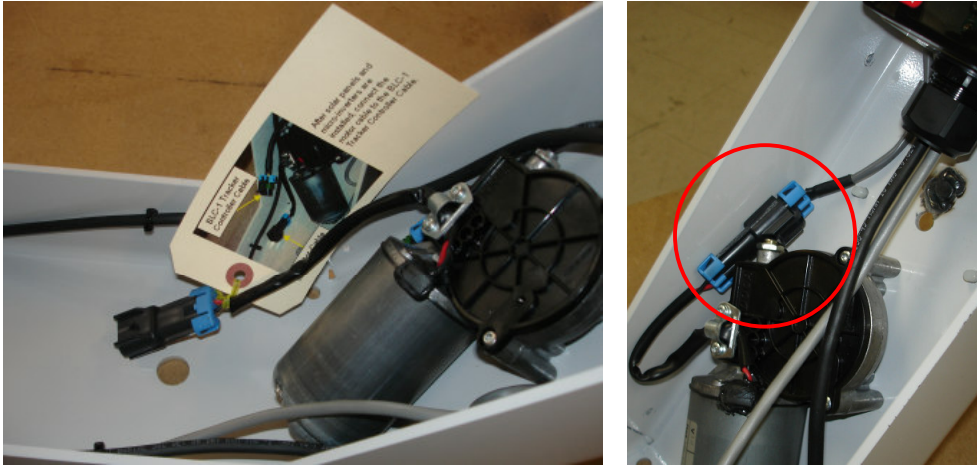

Figure 23
3. After solar panels and micro-inverters are installed and SPT is mounted to the pole, remove the tag and plug the motor into BLC-1 tracker controller. See Figure 23. Uncover the solar panel.